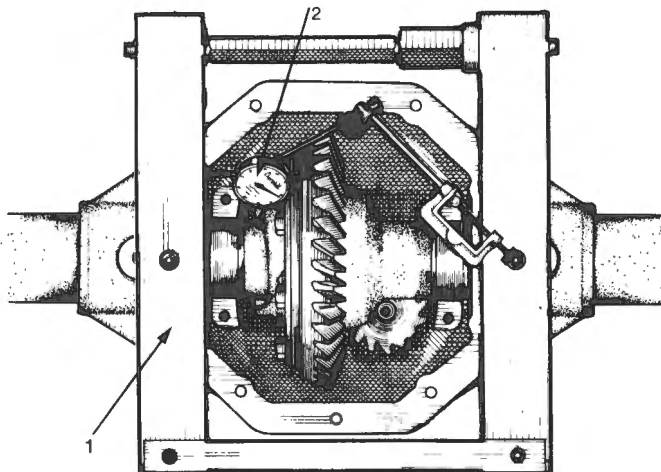

Fig. O-9
- 3 Attach spreader and spread the carrier the minimum amount which will allow removal of the differential assembly. Fig. O-9. Usually 2 to 2½ turns on the spreader bolt is sufficient to allow the assembly to be prised out of the carrier.